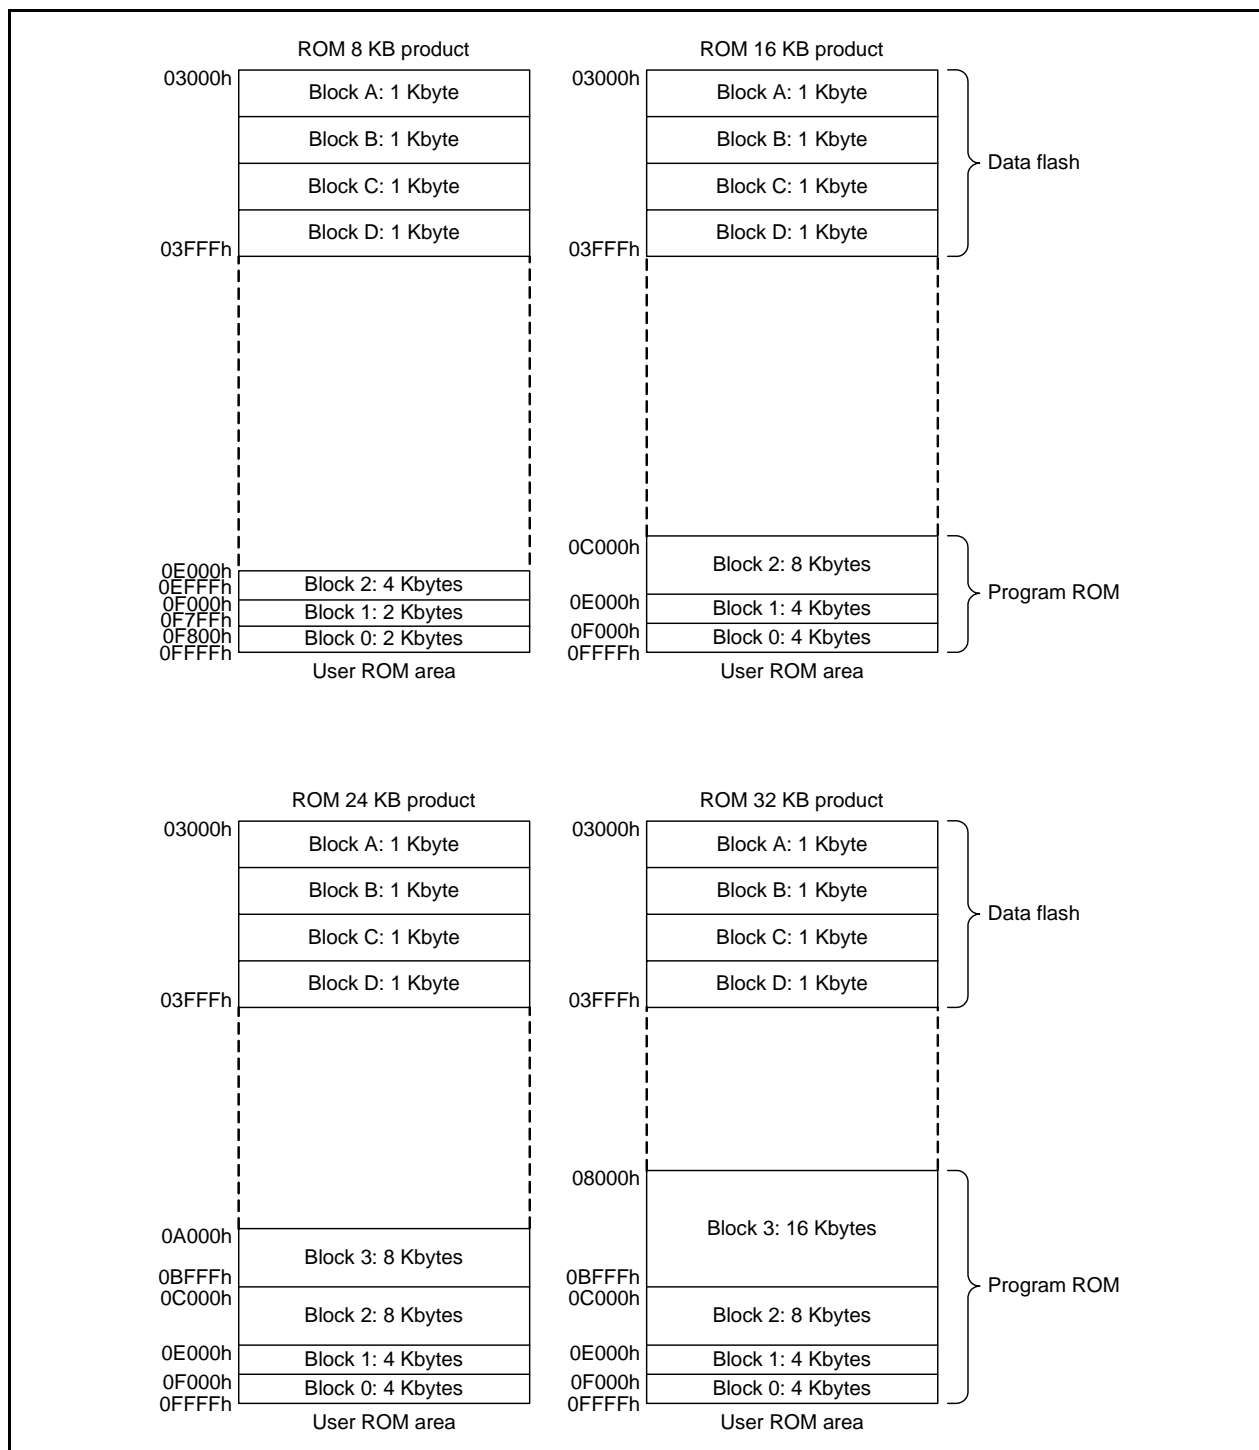

Figure 30.1 R8C/3GC Group Flash Memory Block Diagram
| Division of erase blocks | | Refer to Figure 30.1 . |
- The number of blocks and block division vary with the MCU. Refer to **Figure 30.1 R8C/3GC Group Flash Memory Block Diagram** for details.
Figure 30.1 shows the R8C/3GC Group Flash Memory Block Diagram.